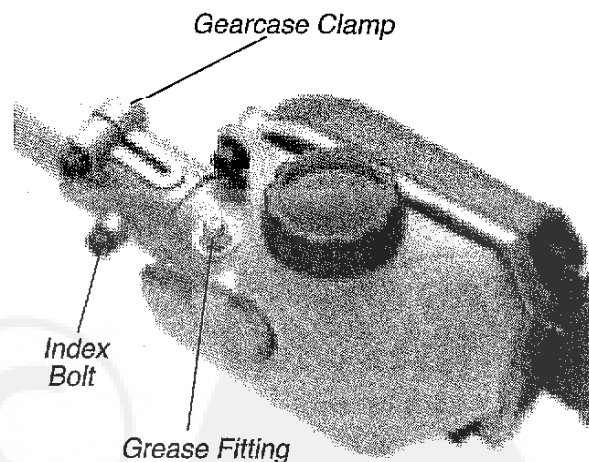

Figure 18
- **Lubricate the gearcase.** To perform this operation, first remove the gearcase from the upper outer tube as follows; Refer to Figure 18.